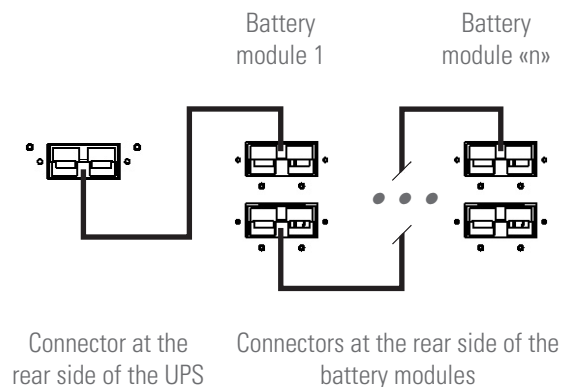

Fig. 18. Example of connection between a UPS and battery modules with connectors.
- The connection of the UPS with the battery module will be done with the supplied cable bundle. First connect one cable end to the UPS terminals or connector and then the other cable end to the battery module terminal or connector. See Fig. 18, as an example.